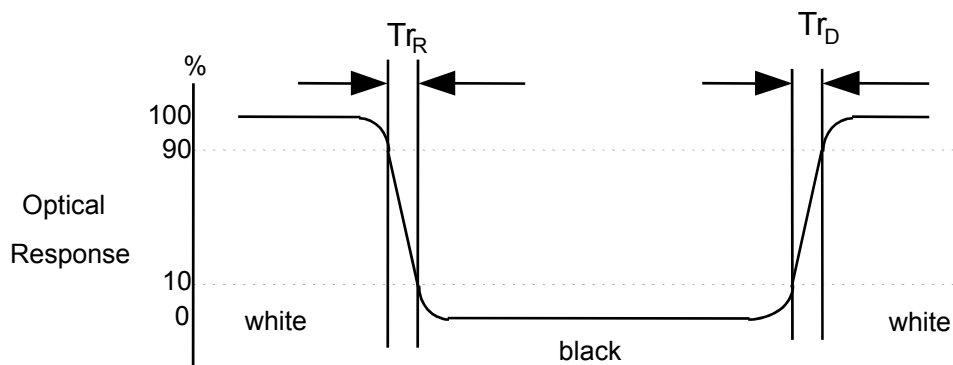

FIG. 4 Viewing angle
- Viewing angle is the angle at which the contrast ratio is greater than 10. The angles are determined for the horizontal or x axis and the vertical or y axis with respect to the z axis which is normal to the LCD surface. For more information see FIG 4.